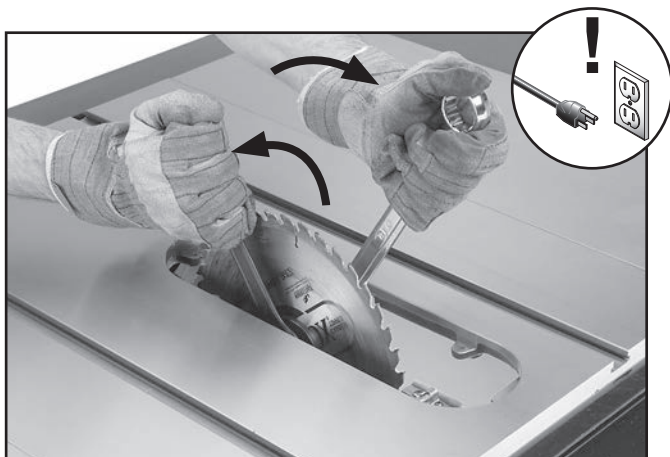

Figure 41. Example of removing table saw blade.
3. Use included arbor wrenches to loosen and remove arbor nut, flange, and blade (see **Figure 41**). Arbor nut has right hand threads; rotate counterclockwise to loosen.